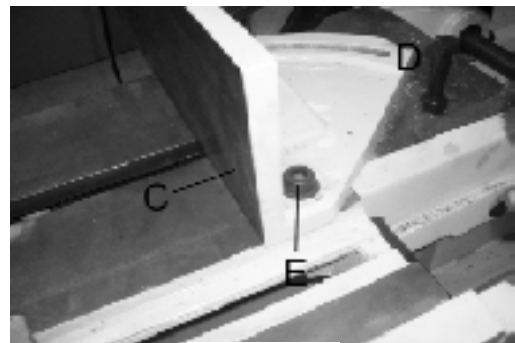

Fig.13
1. Pivot the right vise jaw (C) Fig.13. All the way to the right, and lock spring loaded clamp handle (D)
2. Using a combination square (E), place one end of the square against the vise jaw and the other end against the blade as shown in Fig.13. Check to see if the vise jaw is 90 degrees to the blade.